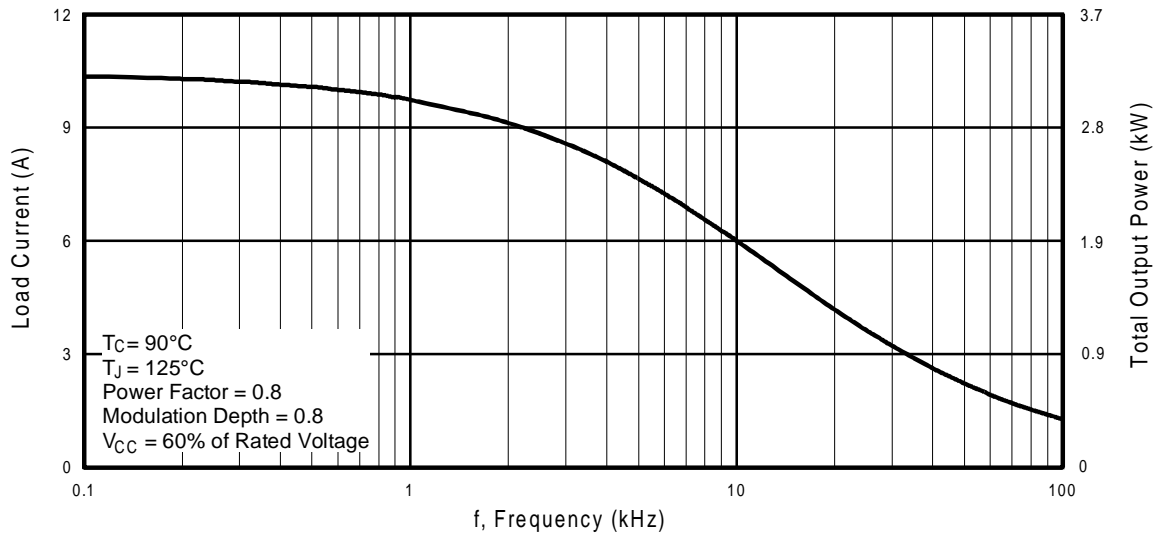

Fig. 1 - RMS Current and Output Power, Synthesized Sine Wave
- Optimized for medium operating frequency (1 to 10kHz) See Fig. 1 for Current vs. Frequency curve
7.65 A_{RMS} per phase (2.4 kW total) with T_C = 90°C, T_J = 125°C, Supply Voltage 360Vdc, Power Factor 0.8, Modulation Depth 80% (See Figure 1)